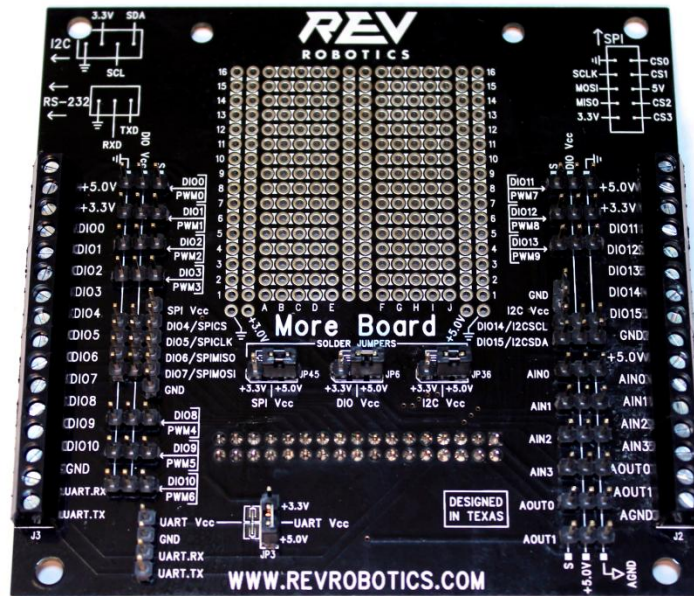

Figure 1-1 More Board Picture
- Figure 1-1 More Board Picture 3